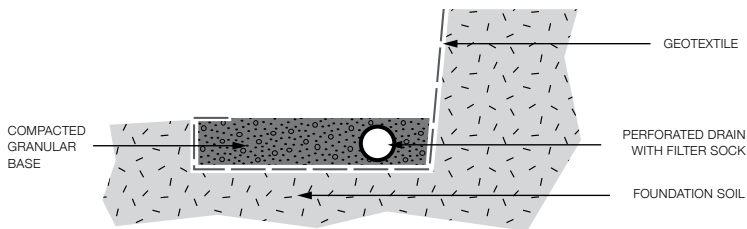

Figure 31. Drain tile placement.
**Drain placement options** - The drain may be outlet through the wall face or connected to a positive outlet (sewer). In the case of connecting to a positive outlet, the drain should be placed at the lowest possible elevation and sloped at a minimum of 2%. At the rear of the base, allow the granular material to slope down on the sides towards the drain trench (Figure 31). In the area behind the base, place the approved drain tile (perforated drain with filter sock) on top of the filter cloth and minimal granular coverage.